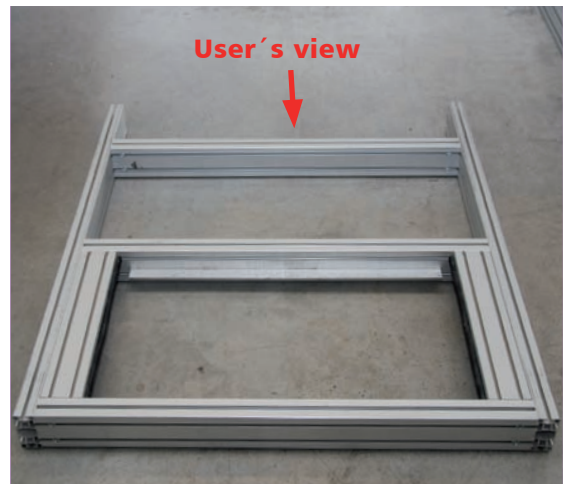

fig. 3.1-3
Step ② Before you start putting together the frame base **A1** (fig. 3.1-3), please attach all the profile connectors to the provided positions at the frame base profiles first. In order to fasten the profile connectors, the chamfering should point towards the cross piece which is indicated by the mark at the anchor. Slightly screw the set screw into the cross piece using the corresponding Allen key. The anchor will be drawn into the profile automatically.